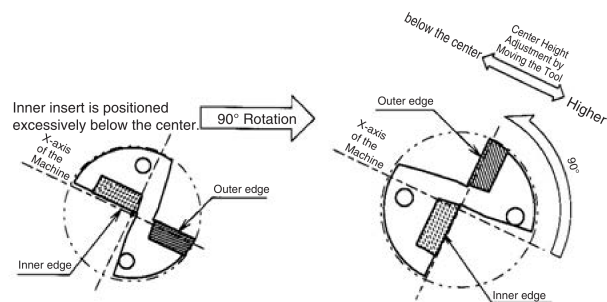

Fig.10
- Install the drill rotating 90° as shown in Fig.10. (outer insert is positioned on the upper side) and adjust the center height by moving tool in the X-axis direction.